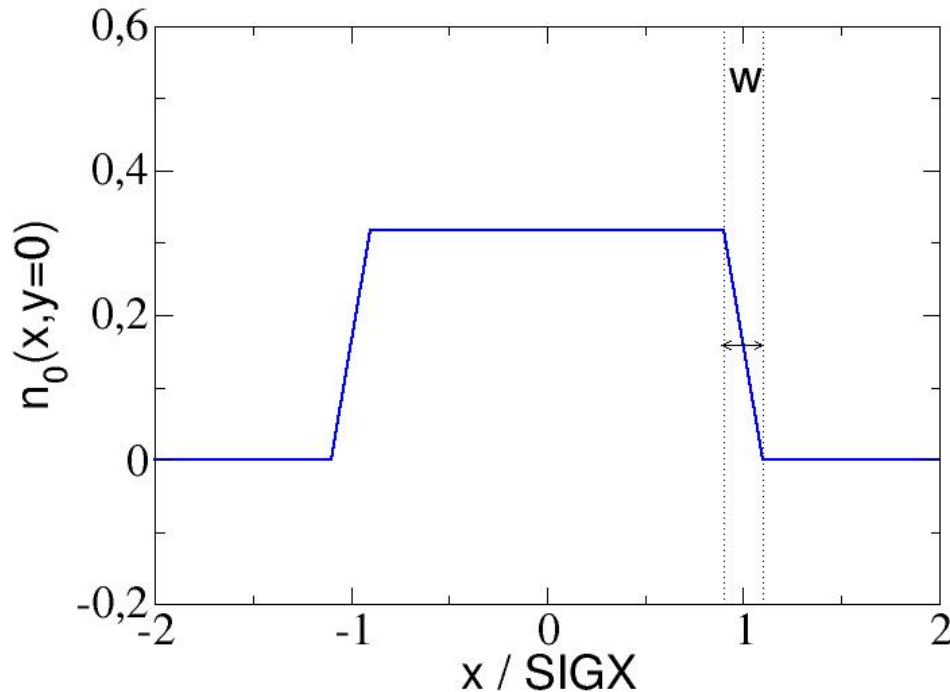

Figure 10.2: Trapezoidal shape of radial density for beam-beam lens.
- **BBSHAPE=2**: trapezoidal shape (see fig.10.2). **SIGX**, **SIGY** are the half widths of density profile, *i.e.* distance from the centre to half edge region with linear decrease of density in horizontal and vertical directions. Only circular opposite beam is possible, *i.e.* in the calculations $SIGX' = SIGY' = (SIGX + SIGY) / 2$ is used, if **SIGX** and **SIGY** have different values. **WIDTH** denotes the full width of the edge region in units of **SIGX** (or **SIGX'** and **SIGY'**, respectively, if **SIGX** and **SIGY** are not equal), *i.e.* if **WIDTH=0.01** and **SIGX=5mm**, the edge region has a full width of 0.05 mm. Condition: $WIDTH < 2.0$.